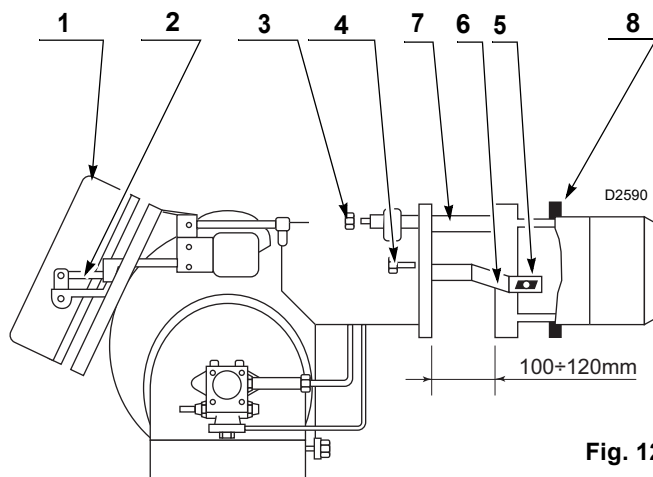

Fig. 12
- remove the cover 1)(Fig. 12), the split pin and pin 2), the nuts 3) and the screws 4).